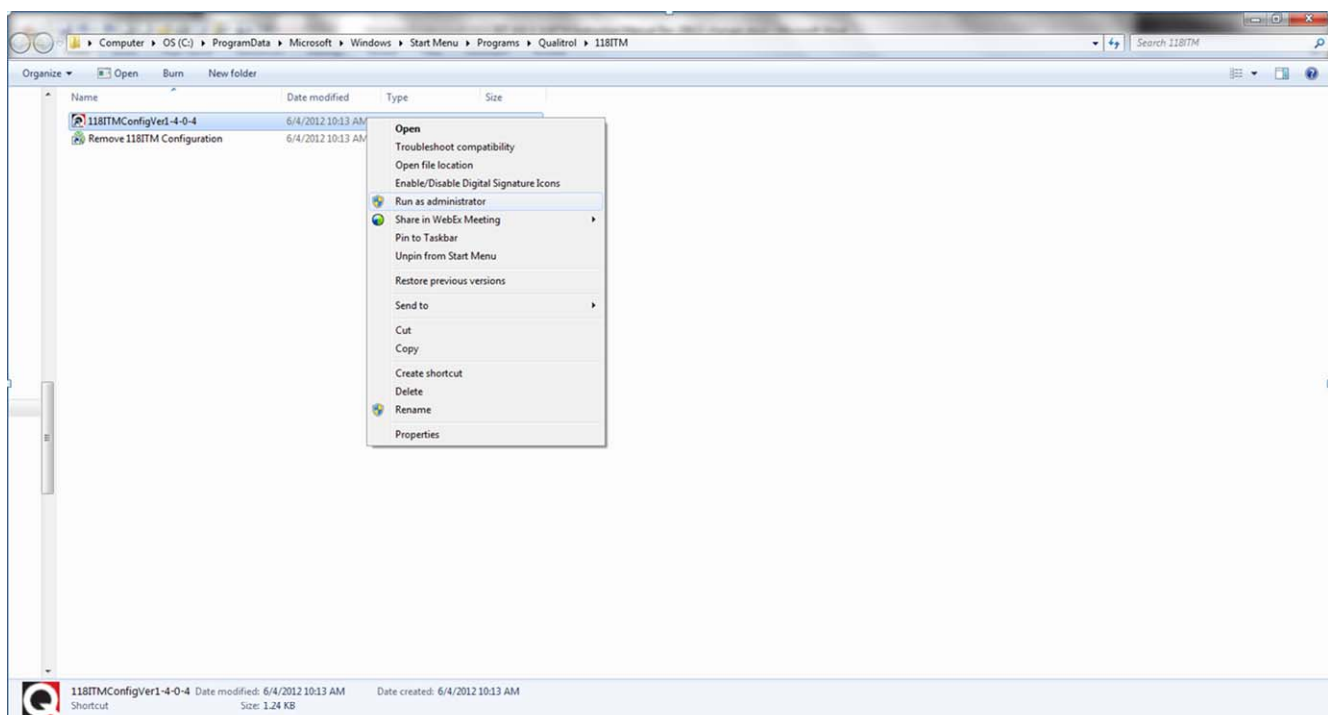

Figure 20 Run as Administration
7. While placing the pointer over the 118ITM shortcut , right click and select “Run as administrator”, refer to figure 20 for illustration.